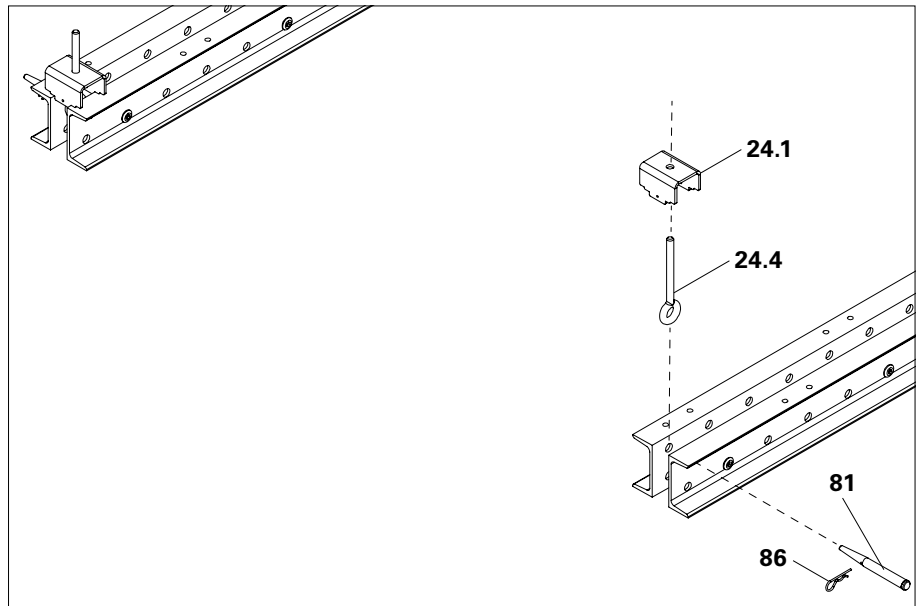
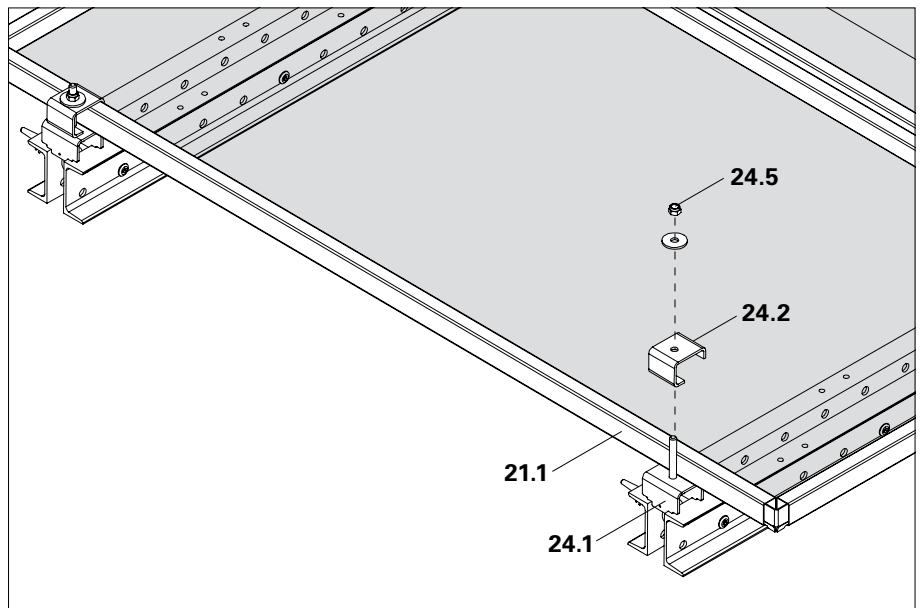

Fig. C1.19
Fig. C1.20
2. Place Distance Piece (24.1) and Ring Bolt (4) on the Climbing Rail (2).
3. Secure eyelet of the Ring Bolt in Climbing Rail with Fitting P(81) and Cotter Pin (86). (Fig. C1.19)
5. Position Screen Element (21).
7. Place Washer and Nut on the Ring Bolt and secure in position with Nut (80 Nm). (Fig. C1.20)